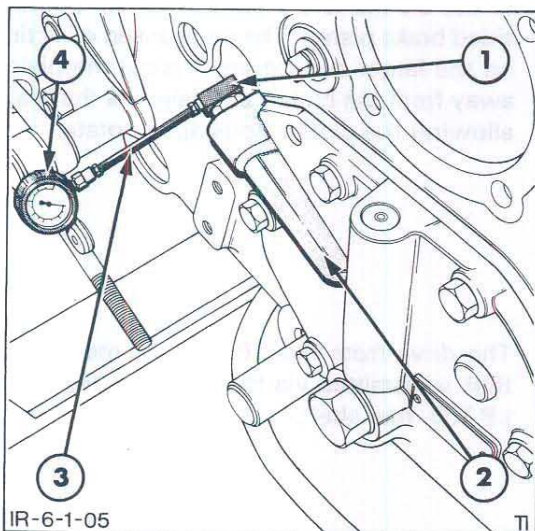

Figure 5
2. Install Adaptor Tool No. FT.4100-2 or 4657, Tube Tool No. FT.4100-1 or 1552 and the Pressure Gauge, Tool No. FT.4100 or 0074 onto the pressure test point, Figure 5.
The I.P.T.O. Control Valve pressure setting can be checked with the test equipment installed as for the Brake Pressure Regulating Valve, Figure 5. With the engine speed set to 2300 rev/min engage the I.P.T.O. clutch and note the pressure gauge reading. If the pressure reading is not greater than that obtained for the Brake Pressure Regulating Valve or is not within the specified range, see "Specifications" Chapter 2 the control valve pressure setting must be checked as follows:–